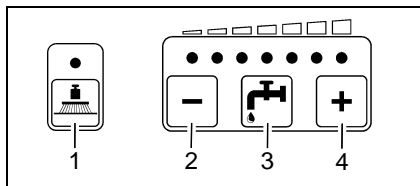

Fig. 24
- Increase brush pressure (Fig. 24/1)
- Reduce solution quantity (Fig. 24/2)
- Increase solution quantity (Fig. 24/4)
- Solution feed on/off (Fig. 24/3)
- Reduce fresh water quantity (Fig. 24/2)
- Increase fresh water quantity (Fig. 24/4)